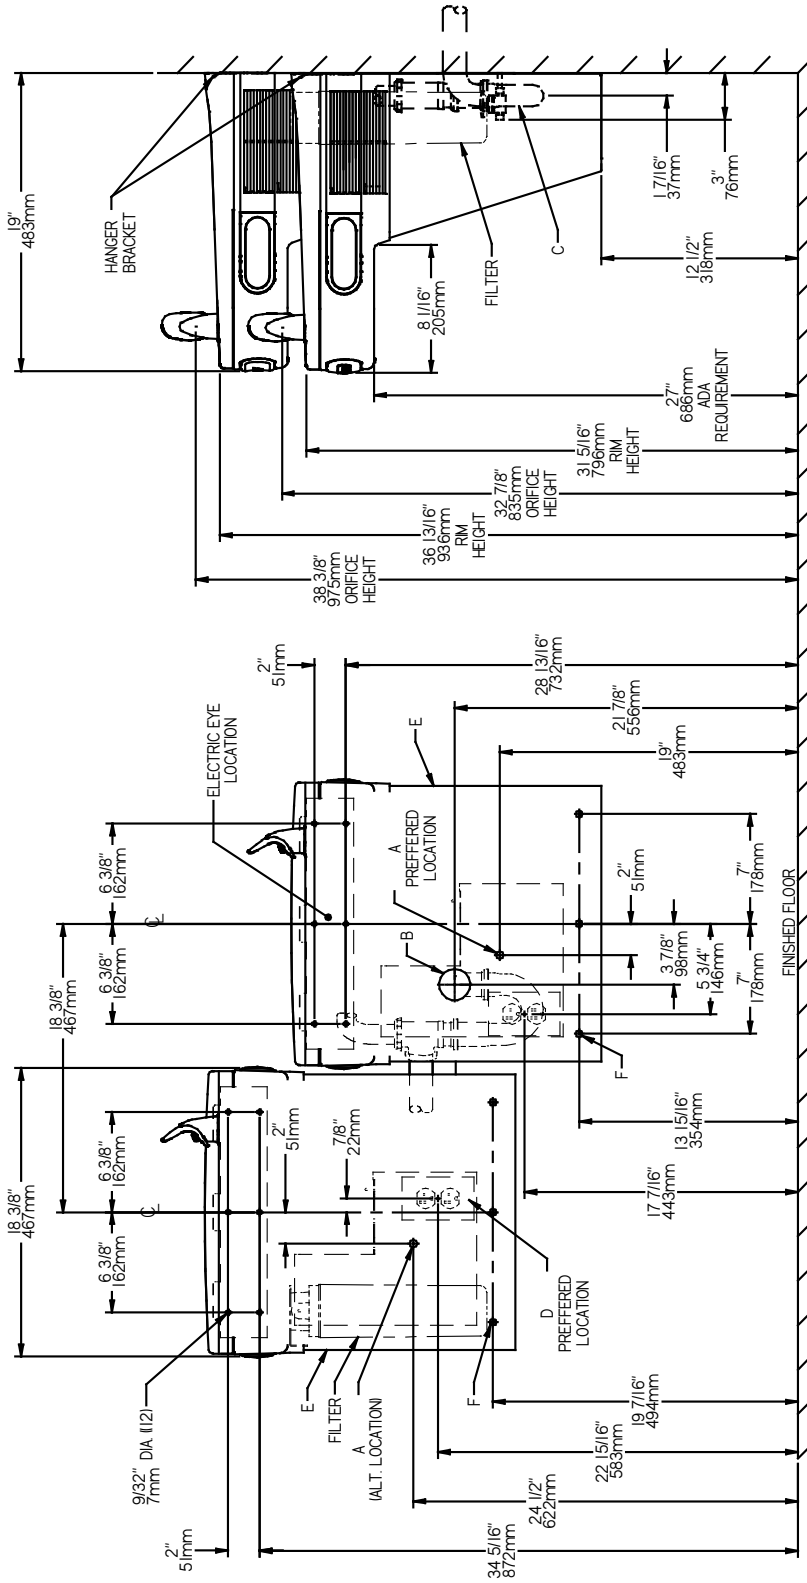

FIG. 2
- 1) Remove hanger bracket fastened to back of cooler by removing one (1) screw.
- 2) Mount the hanger bracket as shown in Figure 2 or 3.
- 3) Hang the cooler on the hanger bracket. Be certain the hanger bracket is engaged properly in the slots on the cooler back as shown in Figure 2 or 3.
- 4) Remove the four (4) screws holding the lower front panel at the bottom of cooler. Remove the front panel by pulling straight down and set aside.
- 6) Install trap. Remove the slip nut and gasket from the trap and install them on the cooler waste line making sure that the end of the waste line fits into the trap. Assemble the slip nut and gasket to the trap and tighten securely. The purple jumper wire (item 8) from the right hand refrigerated unit is to be connected to the purple jumper wire (item 8) located on the non-refrigerated left hand unit by removing the protective end caps and connecting the male and female terminal connectors.